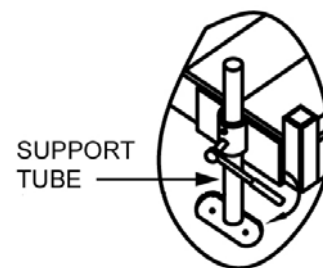

FIG 12
- a. Adjust each leg one at a time by loosening the bolt in the platform saddle bracket. Using a level, adjust the platform height and retighten (FIG 12).